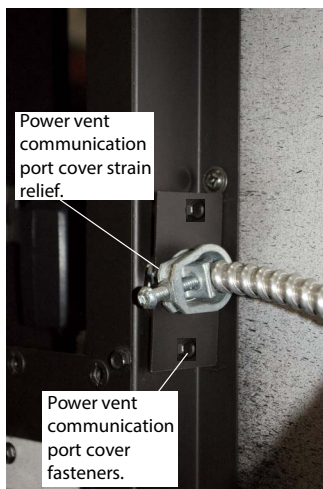

Figure 12e. Installing Conduit Port Cover Plate.
Step 4. Place the cover plate on the Conduit, then tighten the strain relief nut onto the threads protruding through backside of cover plate, **Figure 12e**.
Step 6. Re-Install the communication harness Port cover, **Figure 12e**. (*Philips head screwdriver required*).
Step 7. Tighten Power Vent Strain relief adjustment screw, **Figure 12e**.